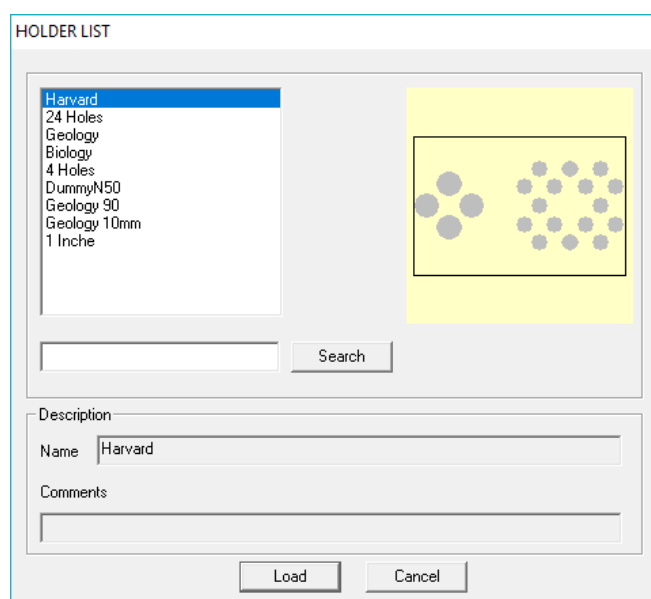

Figure 290: window allowing to choose the sample holder type introduced in the analysis chamber
- Select in the Holder→Load window, the type of sample holder which is introduced in the analysis chamber (Figure 290). The synoptic will display a schematic of this holder type.